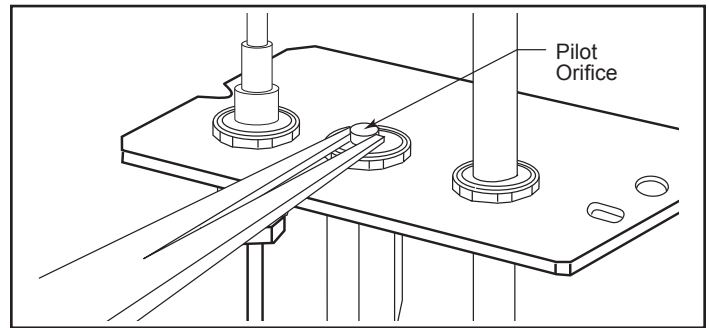

Figure 76 - Remove pilot orifice.
- Remove pilot orifice with needle nose pliers, Figure 76. **NOTE:** Use a wrench to hold pilot tube in place while removing the orifice.